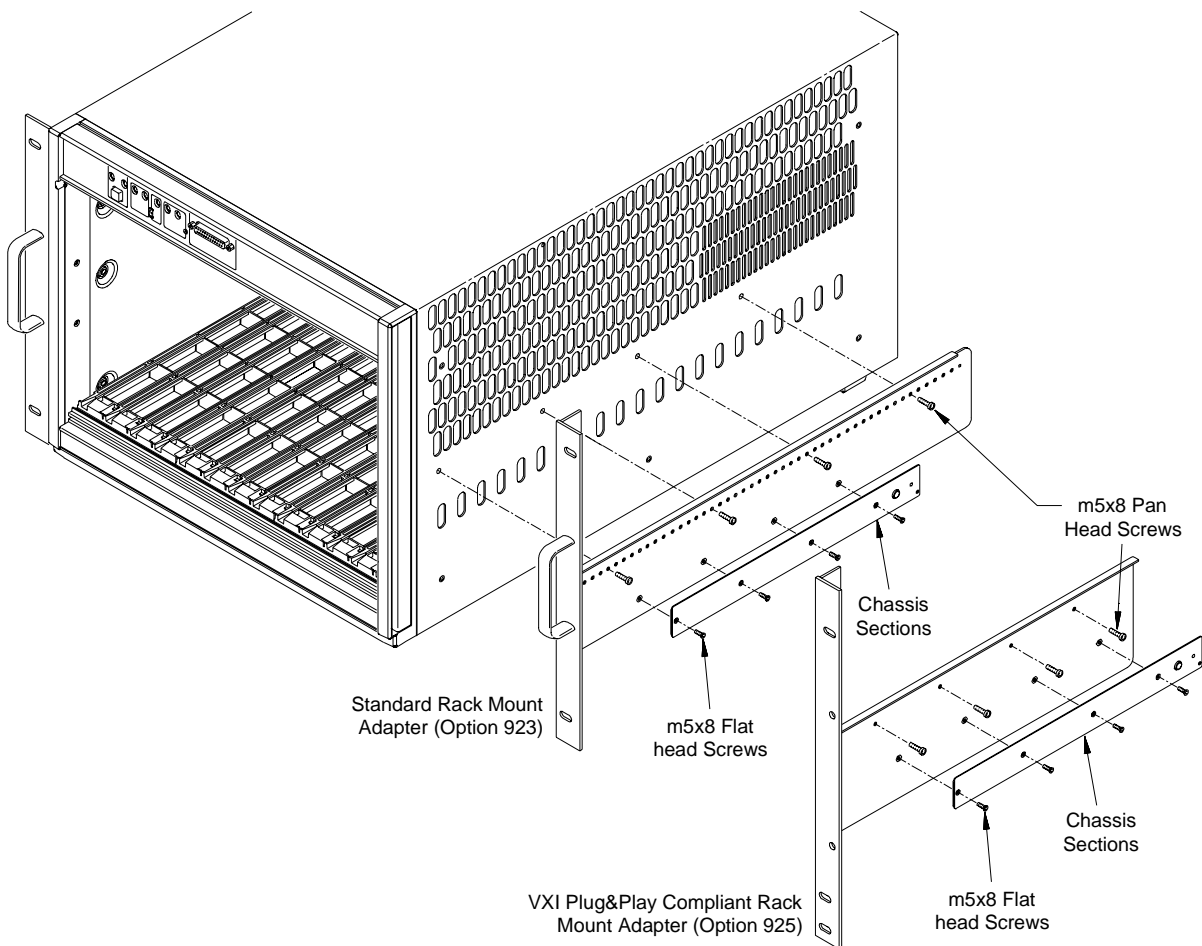

Figure 2-10. Attaching the Rack Mount Adapters and Chassis Sections to the Mainframe.
7. Attach the rack mount adapters to the mainframe using the eight m5x8 pan head screws provided. To mount the mainframe flush with the rack front, begin with the 3rd hole from the front of the adapter (Figure 2-10).
8. Attach the chassis sections to the rack mount adapters using four m5x8 flat head screws per side (Figure 2-10).